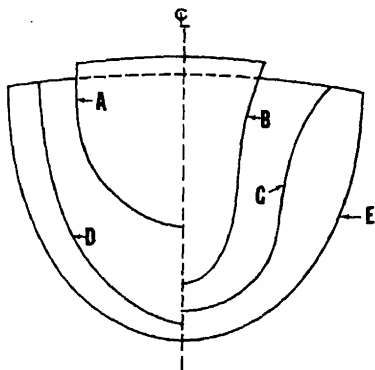

Figure 1B.-Body plan.
- Items 1-69 through 1-72 refer to figure 1B.